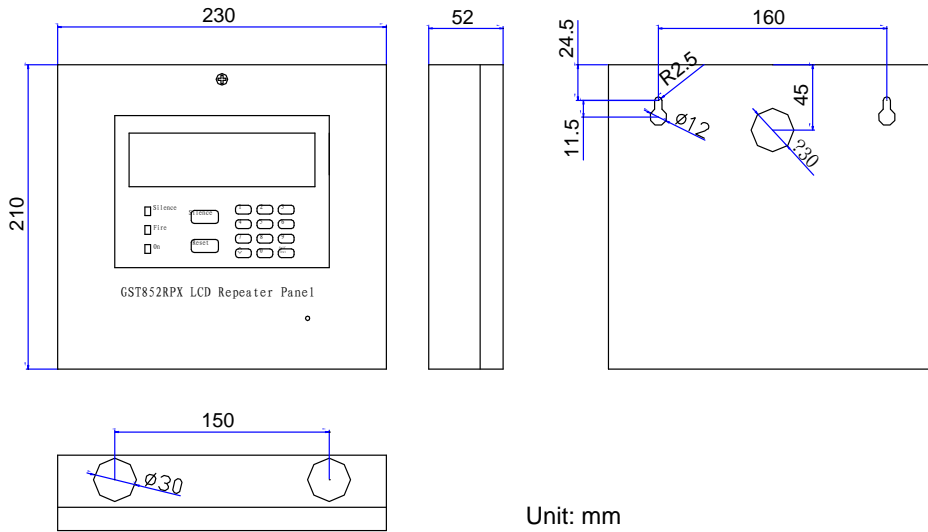

Fig.1
1. GST852RPX LCD repeater panel is wall-mounted. Fig.1 shows its appearance.